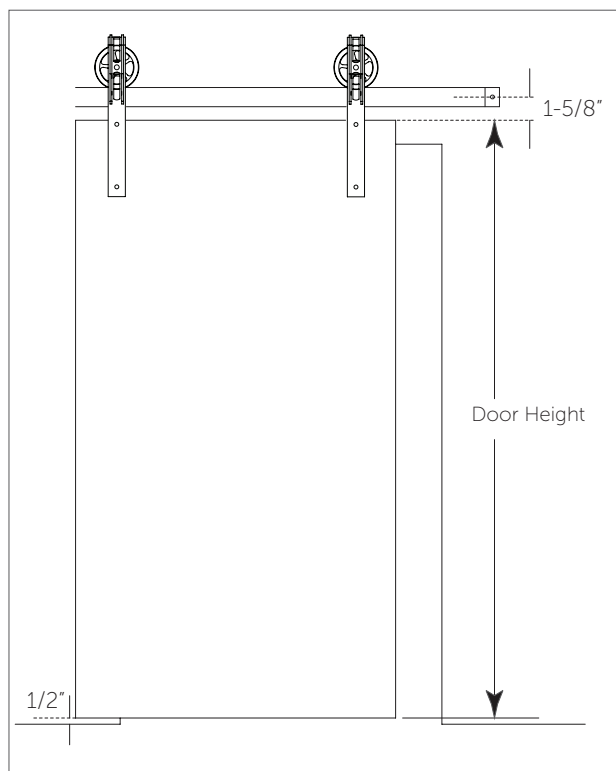

Figure 1
1. To determine where the track should be installed, first measure the height of the door, then add 2-1/4" to the door height. 1/2" of this total will be for the clearance between the bottom edge of the door and the floor. 1-5/8" will be from the top edge of the door to the center of the track (Figure 1).